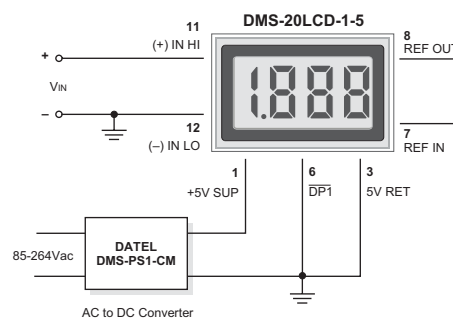

Figure 2. Single-Ended Input Configuration
- 1. Single-Ended Input Configurations:** True single-ended measurements can only be made with 5V-powered meters. The circuit of Figure 2 avoids problems normally associated with ground-loop currents. Separate ground runs should be used for 5V RETURN (pin 3) and (-) INPUT LO (pin 12).